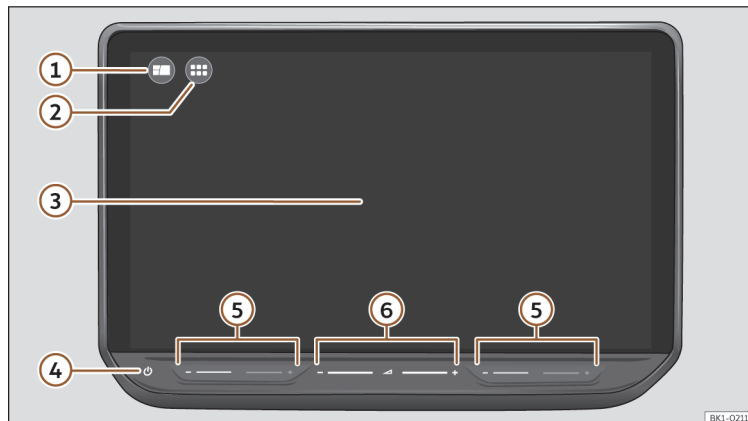

Fig. 180 Overview: control unit
Customise the top menu or the HOME >>> **Fig. 180** ① view to quickly access your favourite or most frequently used functions.